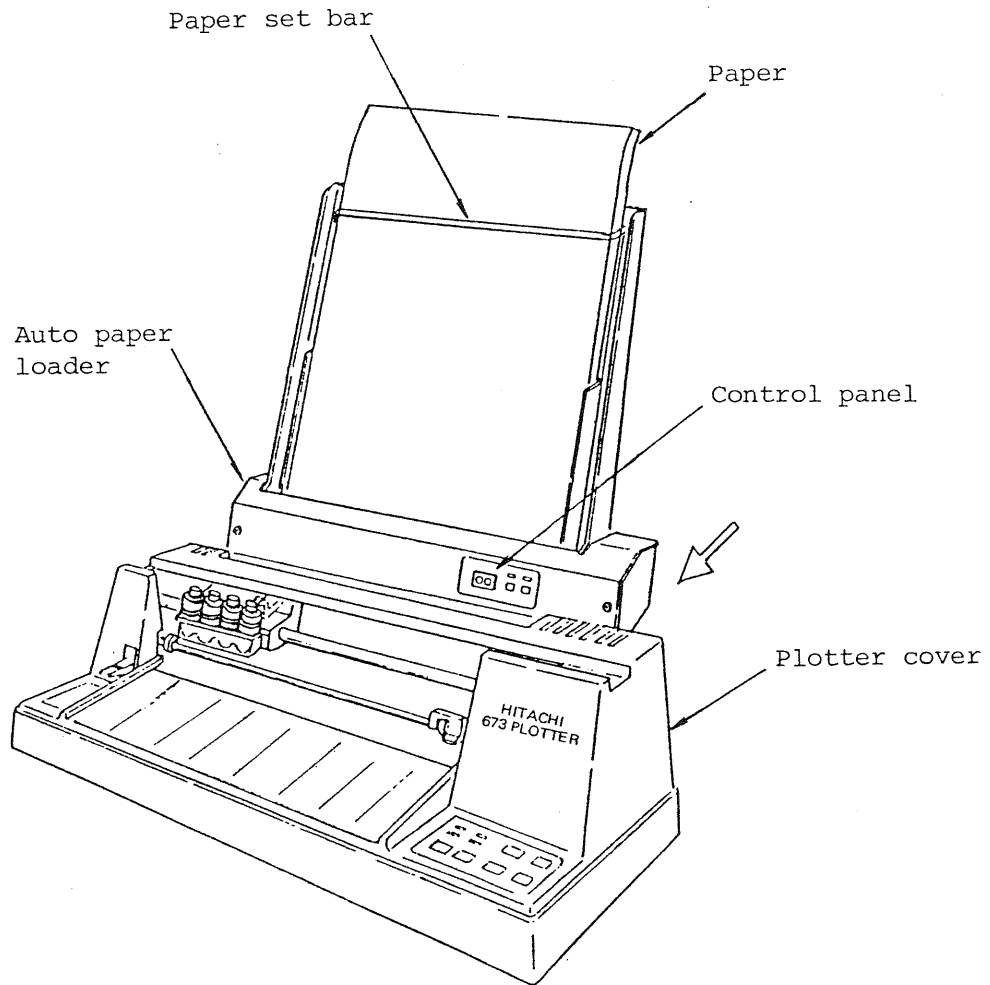

Fig. 4-14 Auto Paper Loader
- (c) Referring to Fig. 4-14, return the plotter to its normal position, and insert the two hooks of the loader unit into the rear of the plotter cover completely.